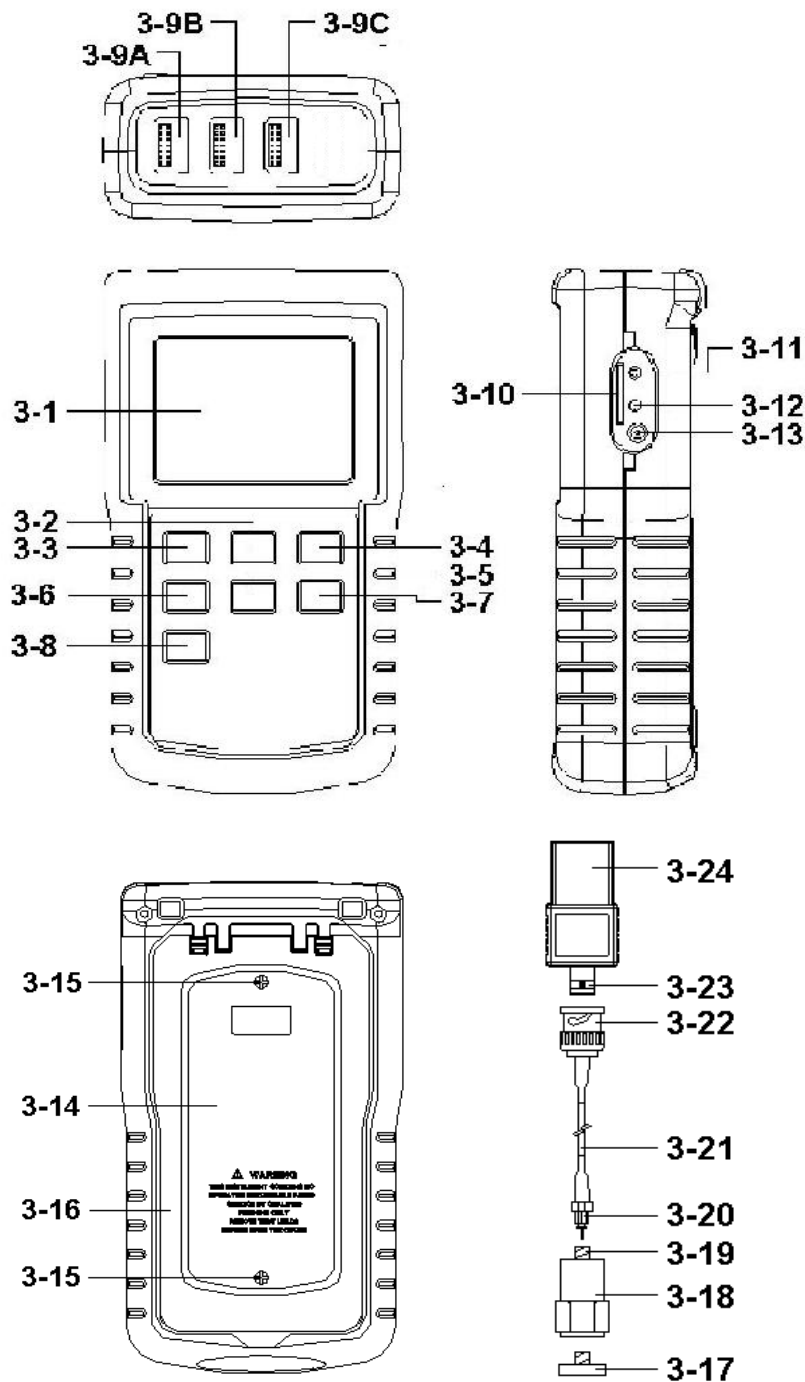
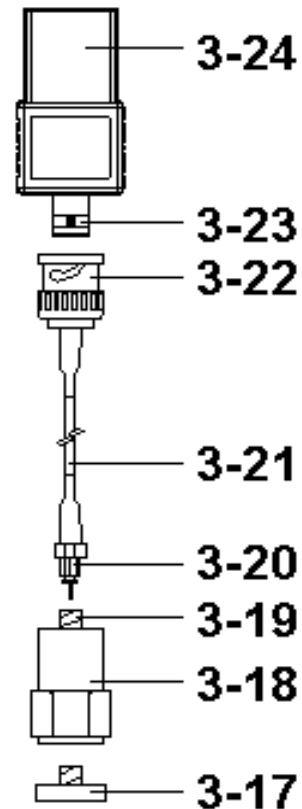

Fig. 1
Fig. 2
Zero Button	Under Acceleration (RMS) measurement, sensor motionless , press two Buttons (3-5, 3-7, Fig. 1) >3 seconds.
Max. Hold Reset Button	Under Max. hold measurement, press two Buttons (3-5, 3-7, Fig. 1) >3 seconds.
1. Vibration Sensor, 3-18, Fig 2
2. Sensor Cable, 3-21, Fig. 2
- 3 VB-83 module, 3-24, Fig. 2
- * Plug in the " Cable BNC Plug " (3-22, Fig. 2) to the " BNC Socket of VB-83 module " (3-23, Fig. 2).
- * Plug in the " Mini plug of cable " (3-20, Fig. 2) to the " Input socket of vibration sensor " (3-19, Fig. 2).
Plug in the " Plug of VB-83 module " (3-24, Fig. 2) to the " X VB-83 Input Socket " (3-9A, Fig. 1). If you have extra vibration sensor set, then Plug in to the " X or Y VB-83 Input Socket " (3-9B, 3-9C, Fig. 1)
Extra vibration sensor set (for Y, Z input), VB-83 can be ordered. When change the VB-83, it is not necessary to make calibration again due to the vibration detail calibration information already save into the " VB-83 module " (3-24, Fig. 2)
2) 1) Power on the meter by pressing the " Power button " (3-2, Fig. 1) > 3 seconds continuously.
The " Display " (3-1, Fig. 1) will show the 4 channels vibration value (X, Y, Z, 3 Axis) at the same time. If some channels not plug in the VB-83 Vibration set, then the corresponding channel Display will show " - - - - ".
- * If the surface material of measuring article is the ferrous material, connect " Vibration sensor " (3-18, Fig. 2) with the " Magnetic base " (3-17, Fig. 2). Put the whole unit (Vibration sensor & Magnetic base) to the surface of measuring article.*
- * Please do not use the finger or hand to touch the " Sensor cable " (3-21, Fig. 1).*
Select the desired display unit by pressing the " ACC/VEL/DISP Button " (3-5, Fig. 1) > 3 seconds (not release the button), the Display will show the following units according Acceleration / Velocity / Displacement in sequence.
Select the desired function (RMS, Peak, Max HOLD) by pressing the " Function Button " (3-7, Fig. 1). continuously (not release the button), until the Display will show the desiring function (RMS, Max HOLD, Peak) , then release the " Function Button " (3-7, Fig. 1).
- 1) Vibration sensor set, VB-83 is ready, connect the " Plug of VB-83 module " (3-24, Fig. 1) to the " CH1, CH2, CH3, CH4 VB-83 Input Socket " (3-9A, B, C, D, Fig. 1).
- 4) Under Acc./Velocity/Displacement measurement if press the " ▲ Button " (3-5, Fig. 1) and " ▼ Button " (3-7, Fig. 1) together > 3 seconds, then the " CH1 " symbol will flasing.
** Press the " SET Button " (3-6, Fig. 1) to select the channel no. (CH2, CH3, CH4), after the exact channel is selected, the channel no. will flashing .*
Press " Enter Button " (3-8, Fig. 1) to let the display reach zero value according the selected channle no. (flashing).
Under execute the Max Hold function if press the " ▲ Button " (3-5, Fig. 1) and " ▼ Button " (3-7, Fig. 1) together > 3 seconds, then the " CH1 " symbol will flasing.
Press " Enter Button " (3-8, Fig. 1) to clear the existing Max hold value according the selected channle no. (flashing).
During the measurement, press the " Hold Button " (3-3, Fig. 1) once will hold the measured value & the LCD will display a " HOLD " symbol.